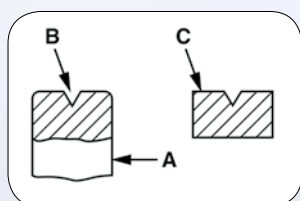

Figure 1
2. The shaft (A) must have a center hole (B) as shown. If it does not, use a shaft protector (C). (See Fig. 1)